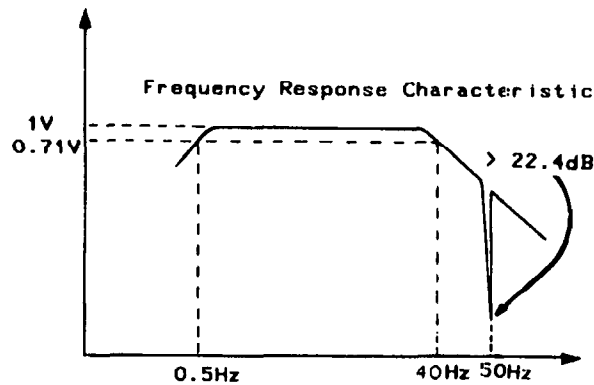

Figure 2b-7. Notch Filter Test Response Characteristic
- c. Sweep Function Generator frequency over a range of 0.5 Hz to 70 Hz. The Oscilloscope should show the response characteristic of Figure 2b-7 with instrument in FILTER mode.